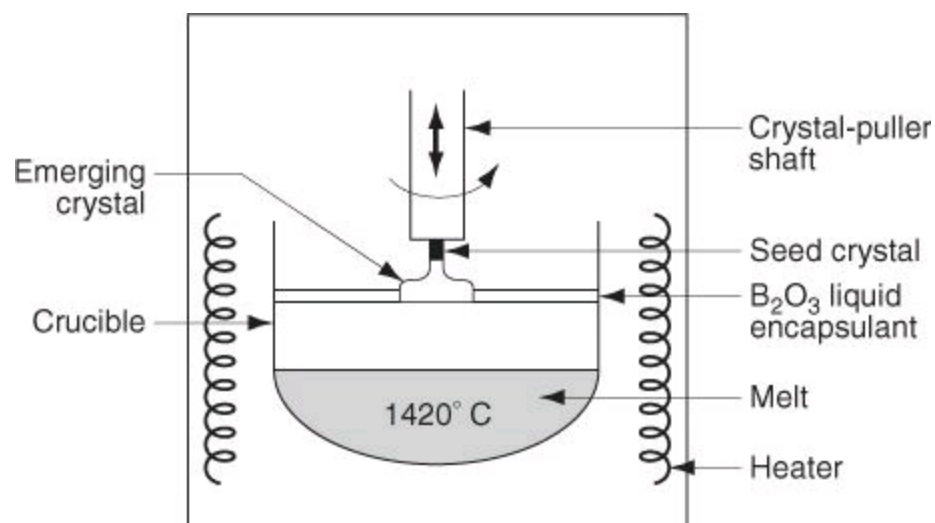

Figure P3.1.18
*****3.1.18.** Silicon rods used in the manufacture of chips can be prepared by the Czochralski (LEC) process in which a cylinder of rotating silicon is slowly drawn from a heated bath. Examine Figure P3.1.18. If the initial bath contains 62 kg of silicon, and a cylindrical ingot 17.5 cm in diameter is to be removed slowly from the melt at the rate of 3 mm/min, how long will it take to remove one-half of the silicon? What is the accumulation of silicon in the melt? Assume that the silicon ingot has a specific gravity of 2.33.